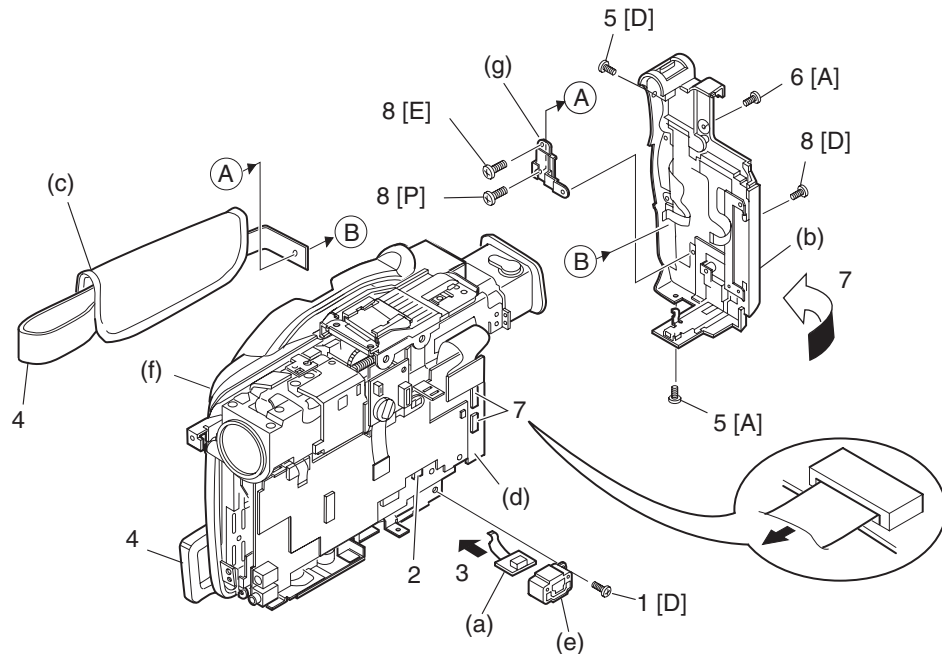

Fig. 5-3-11 USB Circuit Board, Rear Cover, and Hand Strap
(9) USB Circuit Board, Rear Cover, and Hand Strap (Fig. 5-3-11)**◆ USB Circuit Board (a)**